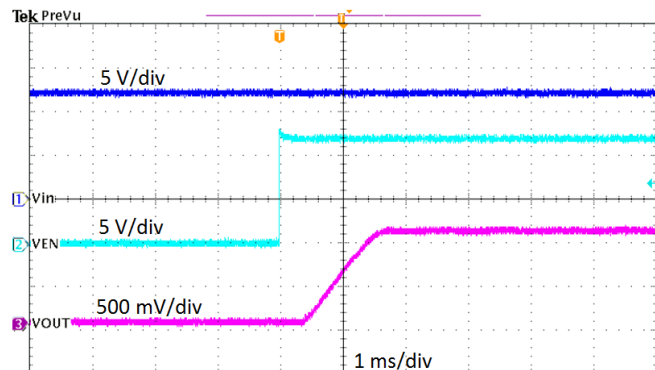

Figure 11. Start-Up Relative to EN
The TPS561201EVM-896 start-up waveform relative to enable (EN) is shown in Figure 11. Load = 1.05 Ω resistive.